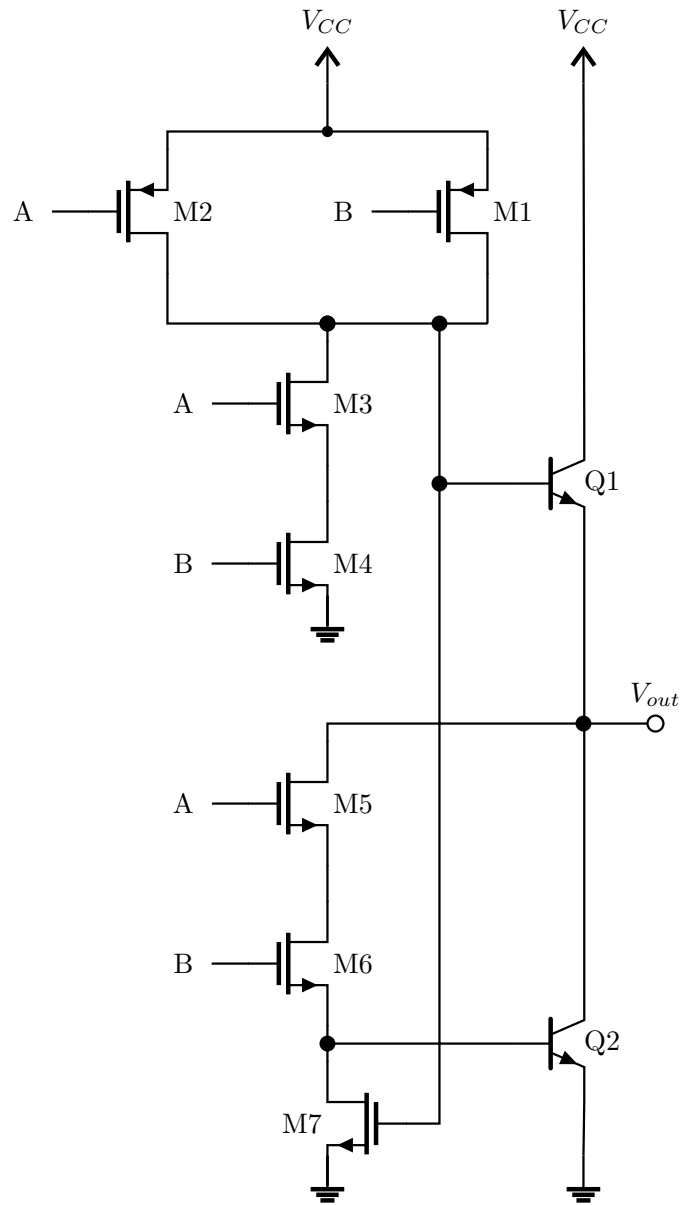

Fig. 6
- (c) Consider the circuit shown in Fig. 6. Two inputs, A and B are provided for an output V_{out} .